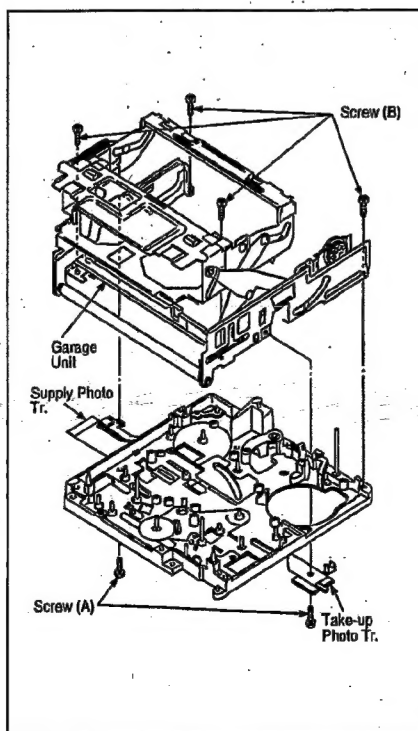

Fig. M2
| (Manual Eject) | Fig. M2 | Unscrew 2 screws (A) and remove Supply and Take-up Photo Transistors from Garage Unit.